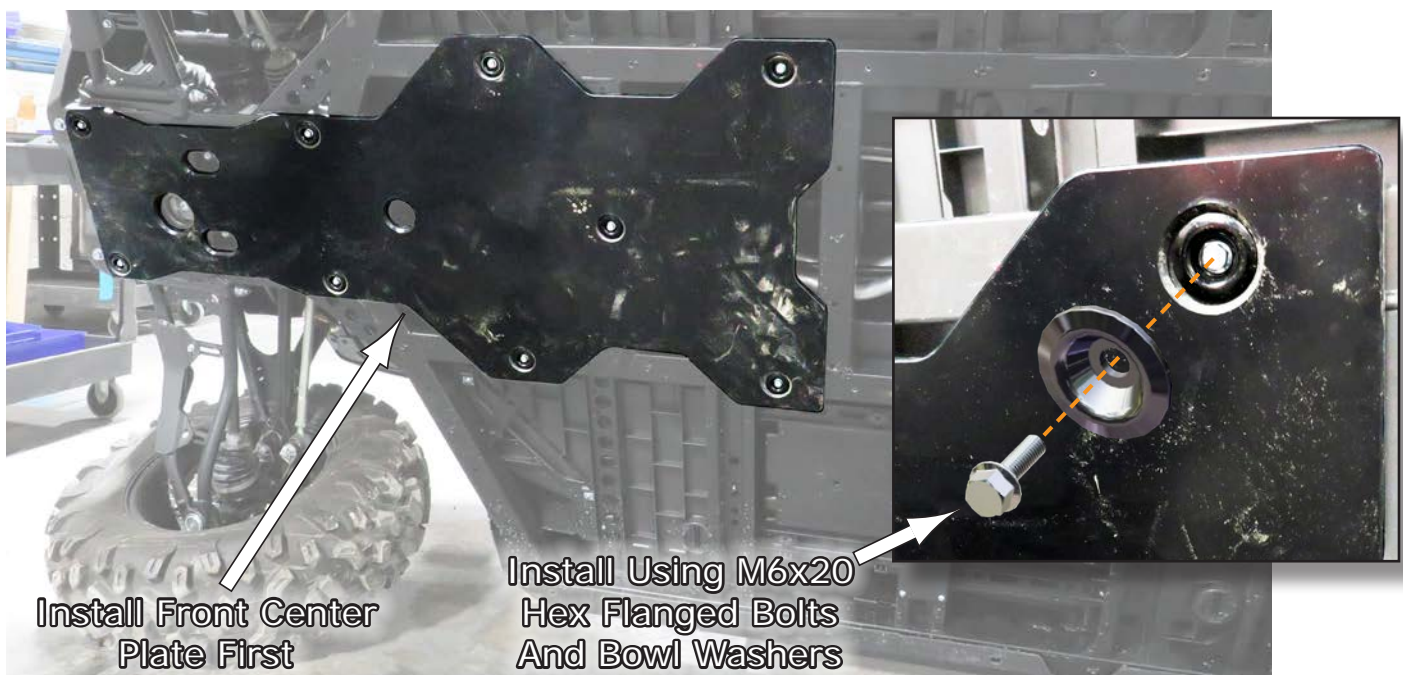

Fig.2
2. Now starting from the front, install the **Front Center Skid Plate** using the **M6x20 Hex Flanged Bolts** and **Bowl Washers** provided in your kit. All of the hole locations in this plate will be installed. Just leave them a little bit loose so you can adjust them after all the plates have been installed and threaded in place. See **Fig.2**.